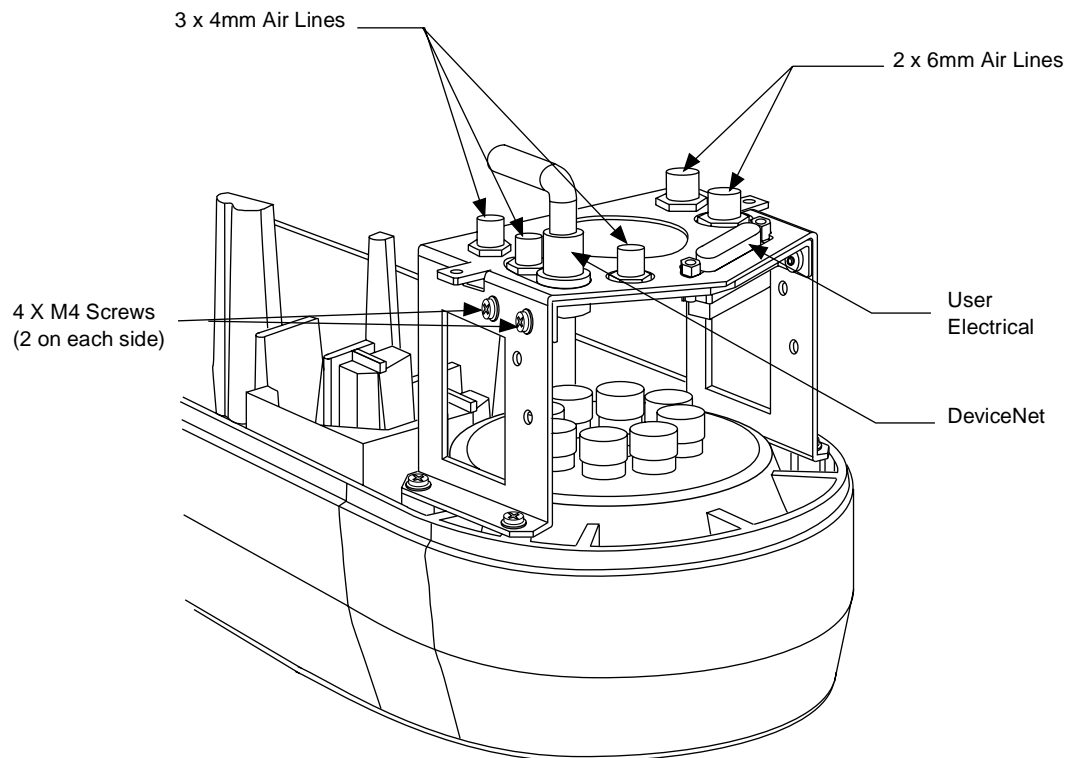

Figure 6-3. Outer Link Harness Support Bracket (Standard Configuration)
2. Remove four M4 screws (two on each side) that hold the harness support bracket (see Figure 6-3).